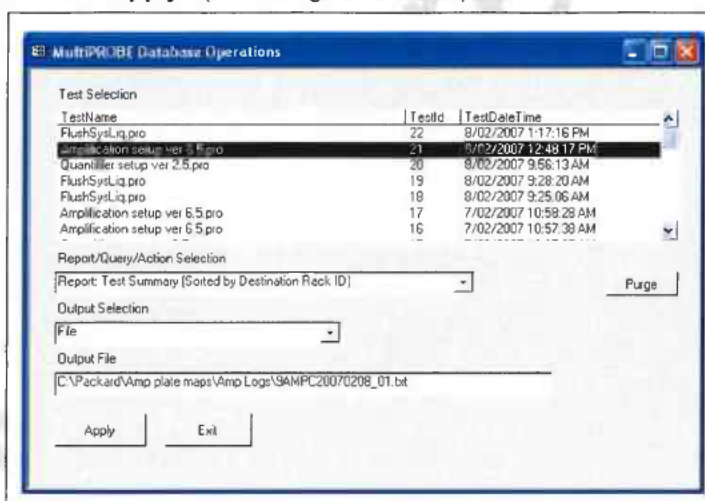

Figure 4. The MultiPROBE log database for collecting MP II run information
50. In the Output Selection dropdown menu, select "File". Save the output file as *.csv format to **C:\PACKARD\EXT PLATE MAPS\EXT LOGS** with the same name as the AUSLAB batch ID and click **"Apply"**. (refer to figure 4. below)